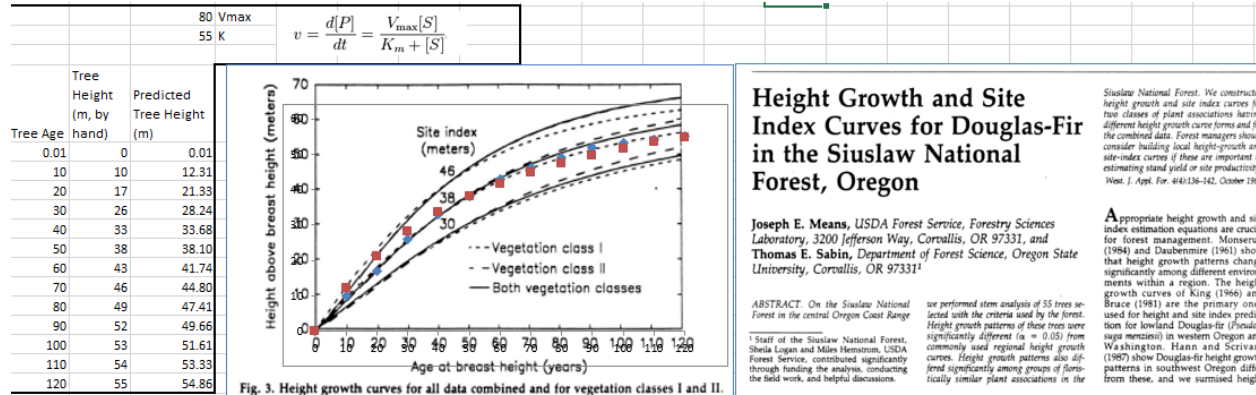

Figure 2. Height to age index curve calculation for Douglas-Fir.
To generate species specific age maps, Michaelis-Menten curves we developed using literature data to produce functions that related species specific age to height. LiDAR height values were used to run the fitted curves of a particular species and derive its appropriate age cell value (Figure 2 and 3). Similar techniques can be used to develop relationships between above ground biomass or above ground carbon and vegetation age. Woods Hole has produced a national data set which include estimates of above ground carbon and vegetation height (Kelldorfer et al, 2012).
- In cases where the gSSURGO soil textures were initially classified under subclass, the soil textures need to be re-classified to their parent class of the USDA Soil Survey Manual, Chapter 3 (USDA, 2017) of the soil triangle textures that are used by VELMA (Figure 2).